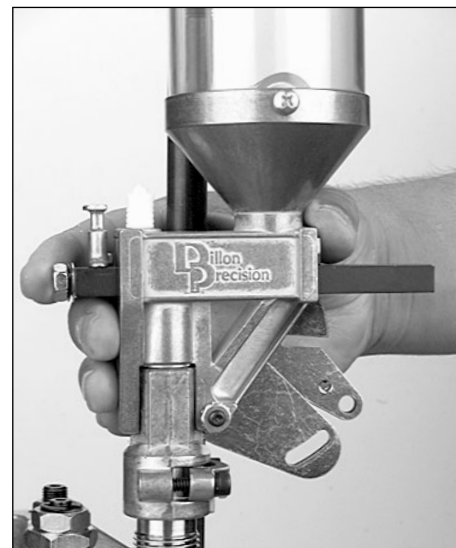

FIG 32
C. Station 2 – Installation of powder measure assembly FIG 32: